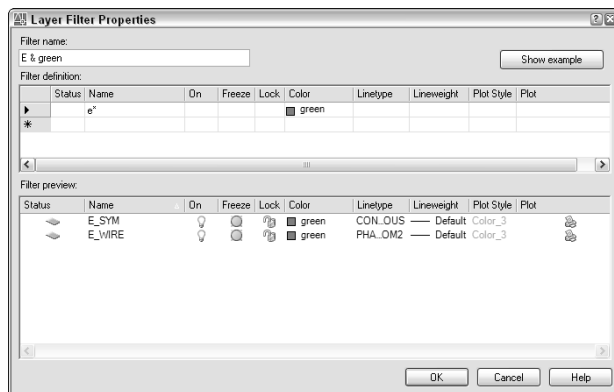

**Figure 11-14:** The Layer Filter Properties dialog box.
To create a properties filter, click the New Property Filter button to open the Layer Filter Properties, shown in Figure 11-14. Notice that the Filter Definition pane at the top has the same columns as the Layer Properties Manager.
- ♦ To specify a filter for a named property, such as the name or linetype of a layer, you can use wildcards. The two most common wildcard characters are \* (asterisk), which replaces any number of characters, and ?, which replaces any single character. Figure 11-14 shows the layer name filter set to e\*. The color is also specified as green. Therefore, the filter includes only layers whose names start with the letter E and are green.